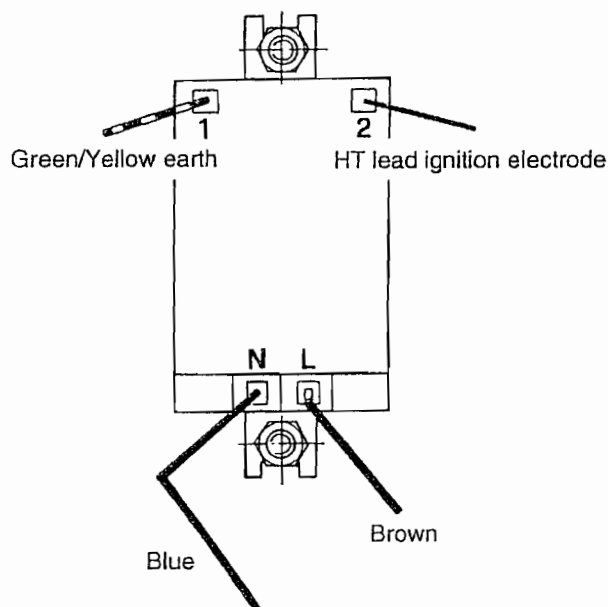

Fig. 44
- Release the two ignition generator fixing screws, situated at the base. (Refer to fig. 44 for wiring).
- Re-assemble in reverse order (Refer to fig. 44 for wiring). Check the ignition of the pilot.